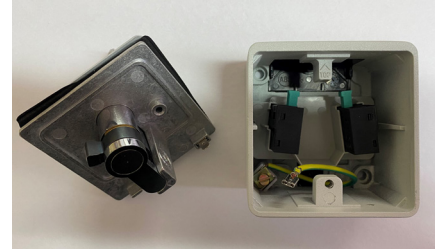

fig.1
- 1** To open the key switch remove screw from front then rotate key a quarter turn and pull the front away to reveal the wiring underneath (**fig.1**).